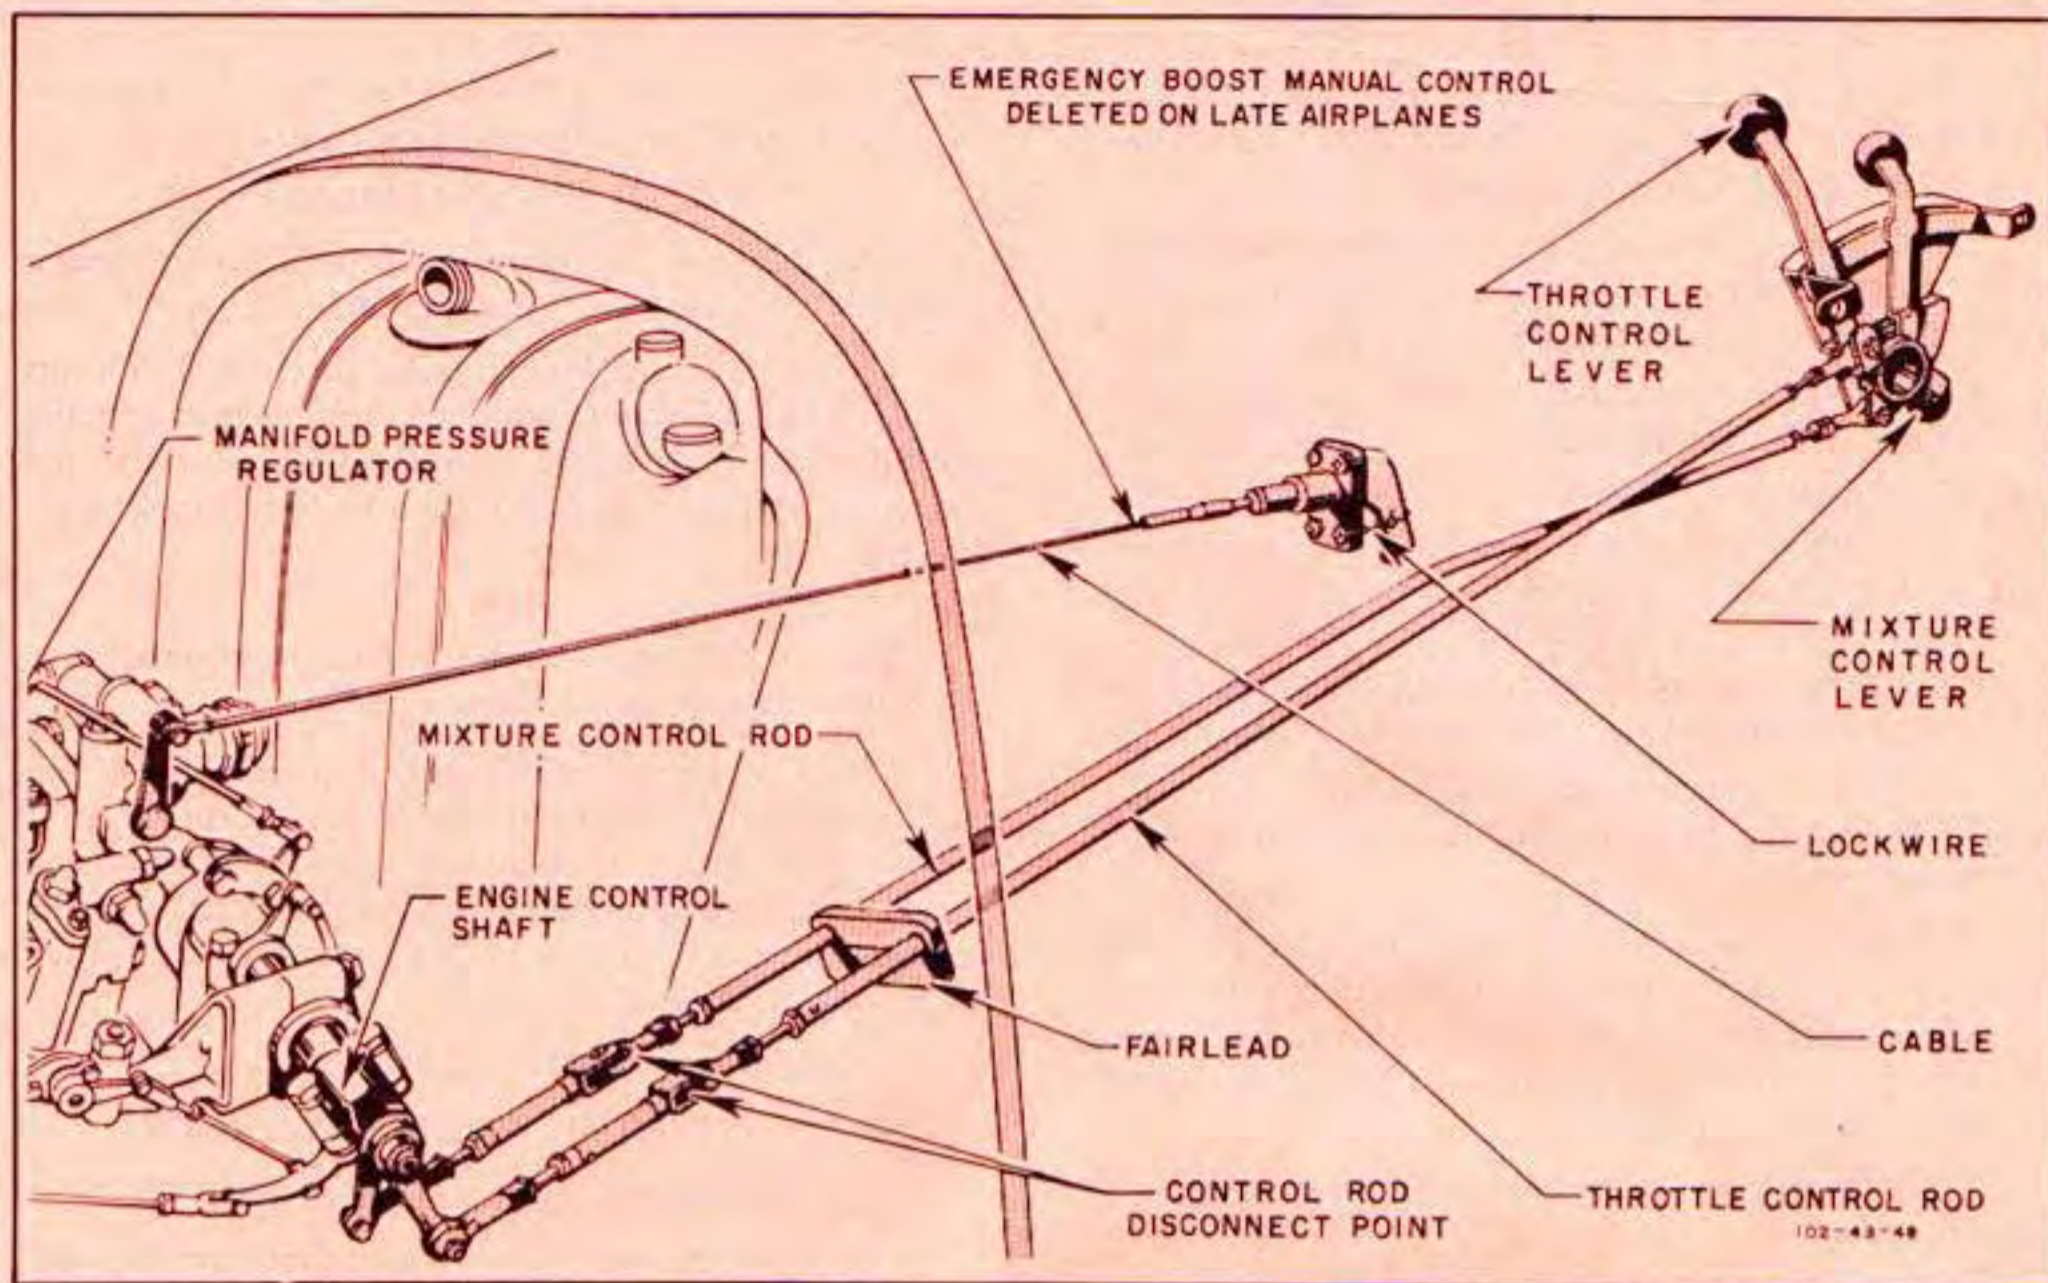

Figure 239—Throttle, Mixture, and Boost Controls
(1) DESCRIPTION.—The throttle control lever is connected to a control shaft built integral with the engine. (*See figure 239.*) A throttle stop assembly on the upper longeron allows full travel of the throttle control lever to obtain 67 in. Hg manifold pressure. A throttle gate on the longeron stops the lever at the 61 in. Hg manifold pressure position. A safety wire is installed across the gate at this position and as the gate is passed to obtain the war emergency rating (67 in. Hg manifold pressure), the wire will be broken, indicating that 61 in. Hg manifold pressure has been exceeded.
(2) ADJUSTING THROTTLE CONTROL.
(1) DESCRIPTION.—A lockwired control handle on the left corner of the pilot's instrument panel is connected by a flexible cable to the emergency boost lever on the automatic manifold pressure regulator. (See figure 239.) This control is used to obtain war emergency rating from the engine. Ground crews should check this control following each flight to make certain that the lockwire on the handle remains unbroken. If the lockwire is broken, a special inspection of the engine should be made. (See section X.) On later airplanes, no separate emergency manual control is provided for the manifold pressure regulator, as the unit operates automatically when the throttle control is positioned for war emergency rating.
(2) ADJUSTING EMERGENCY BOOST CONTROL (For Early Airplanes So Equipped).